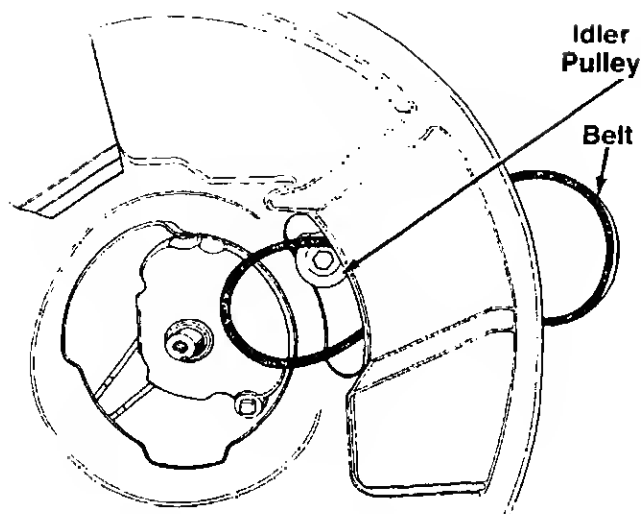

FIGURE 23.
- A. Push the idler pulley up out of the way as shown in figure 23.
- B. Slide the belt in from the rear of the deck, and place it around the transmission pulley. See figure 23.